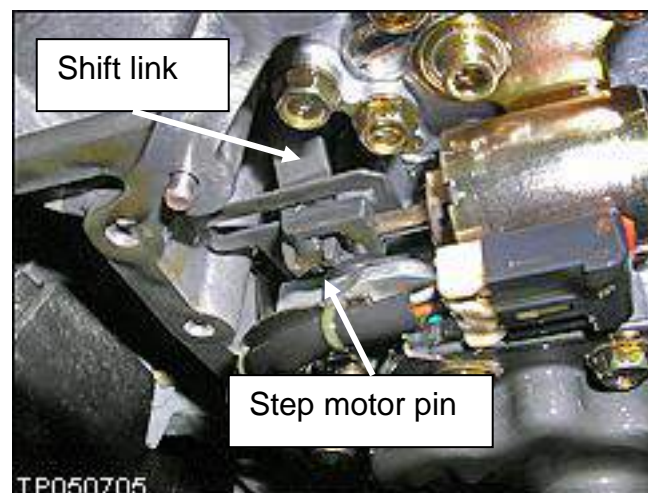

Figure 15
18. While you are doing Step 17 above, the lower end of the shift link must stick through the bottom of the step motor pin as shown (see Figure 15).